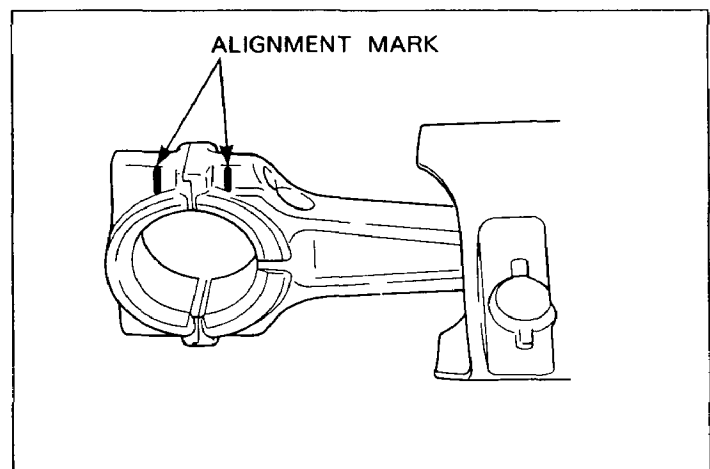

Fig. 49
(1) Turn crankshaft to bottom dead center, lightly tap top of the piston until large end of the rod meet crankpin.
(2) Install connecting rod cap and oil splasher to connecting rod matching alignment marks. (See Fig. 49.)